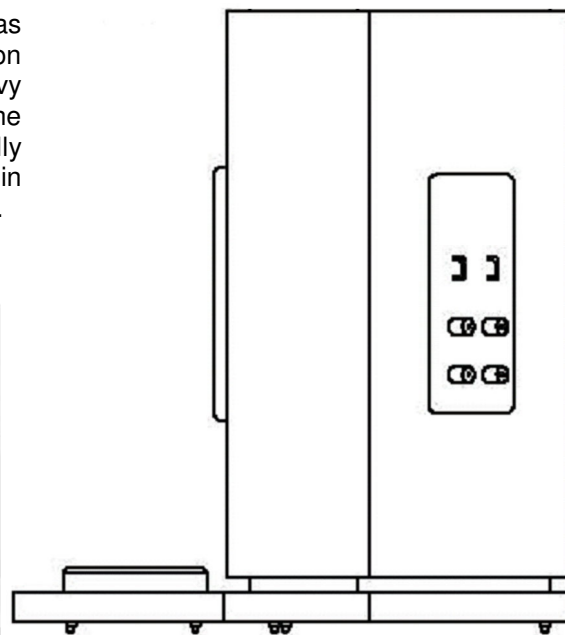

Figure 3. Lower Module on Bottom Plate
2. Identify the left lower module. This has the input terminals and level selectors on its rear face. This module is very heavy and you may find it easier to grip if the grills are removed first. Place it carefully on top of the bottom plate as shown in figure 3. Ensure that it is properly seated.